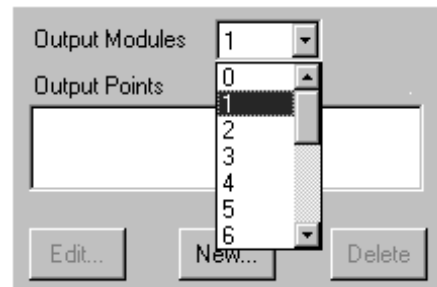
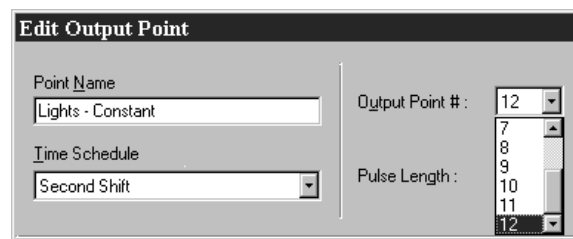

Figure 7. Assigning a Unit Number to the First HOM
Figure 8. Available Output Points after Adding Second HOM
2. In ACCESS NT, select output module 1 in the New or Edit APM dialog box (Figure 7). Output points 5-8 are now available (Figure 8). (Output module 0 represents the 4 onboard output points.)